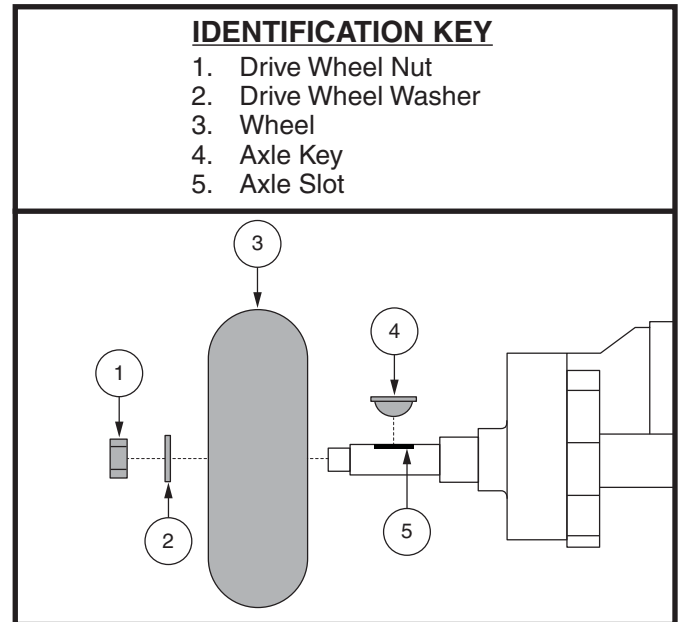

Figure 34. Wheel Replacement
3. Remove the drive wheel nut and washer from the axle. **See figure 34.**